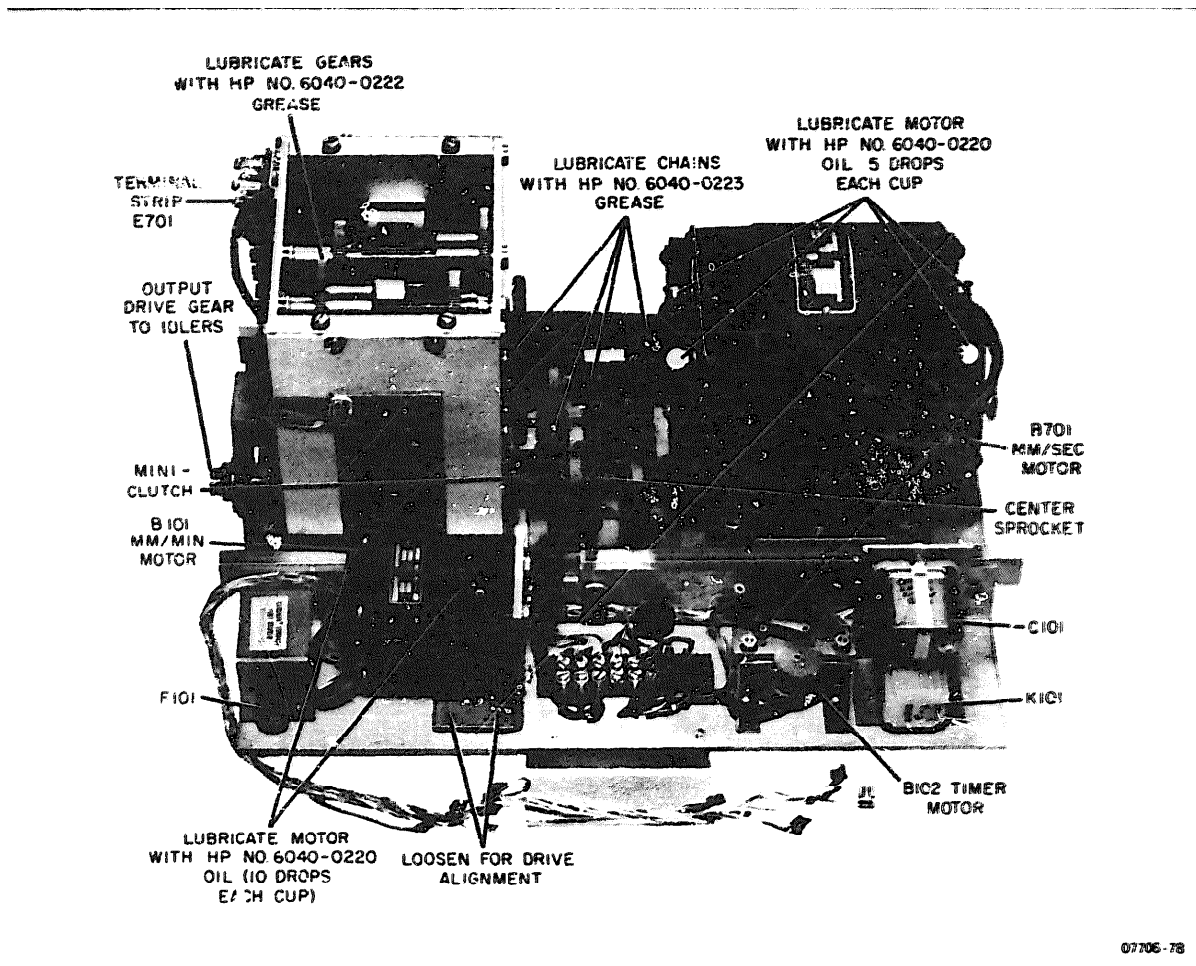

Figure 5-26. Lubrication and Points and Component for Speed Drivers, "DW", Records
5-113 Install chain on sprocket in the middle of "X" support arbor, inserting sprocket shaft through both sprocket and support assembly, see Figure 5-26. Install washers between same sprocket and support assembly at the side nearest to the mini-clutch. Be sure that the shaft is inserted in such a manner that its flattened sections are not mounted on the bushings
a. Align motor over the four holes; insert screws and adjust chain slack for approximately 1/8" and alignment with mini-clutch gear (see Figure 5-26). Tighten screws and check complete assembly for proper operation.